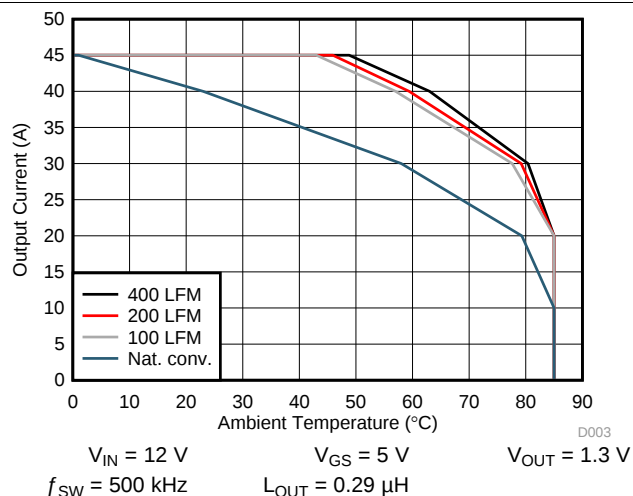

Figure 3. Safe Operating Area (SOA) – Thermal Airflow Measurement PCB Vertical Mount
(1) Equivalent based on application testing. See Application and Implementation section for details.
$T_J = 125^\circ\text{C}$, unless stated otherwise. The Typical Power Block System Characteristic curves Figure 3, , and Figure 4 are based on measurements made on a PCB design with dimensions of 4" (W) $\times$ 3.5" (L) $\times$ 0.062" (H) and 6 copper layers of 1-oz. copper thickness. See Application and Implementation for detailed explanation.
The SOA curves in the CSD87355Q5D data sheet provides guidance on the temperature boundaries within an operating system by incorporating the thermal resistance and system power loss. **Figure 3** to **Figure 4** outline the temperature and airflow conditions required for a given load current. The area under the curve dictates the safe operating area. All the curves are based on measurements made on a PCB design with dimensions of 4" (W) × 3.5" (L) × 0.062" (T) and 6 copper layers of 1-oz. copper thickness.